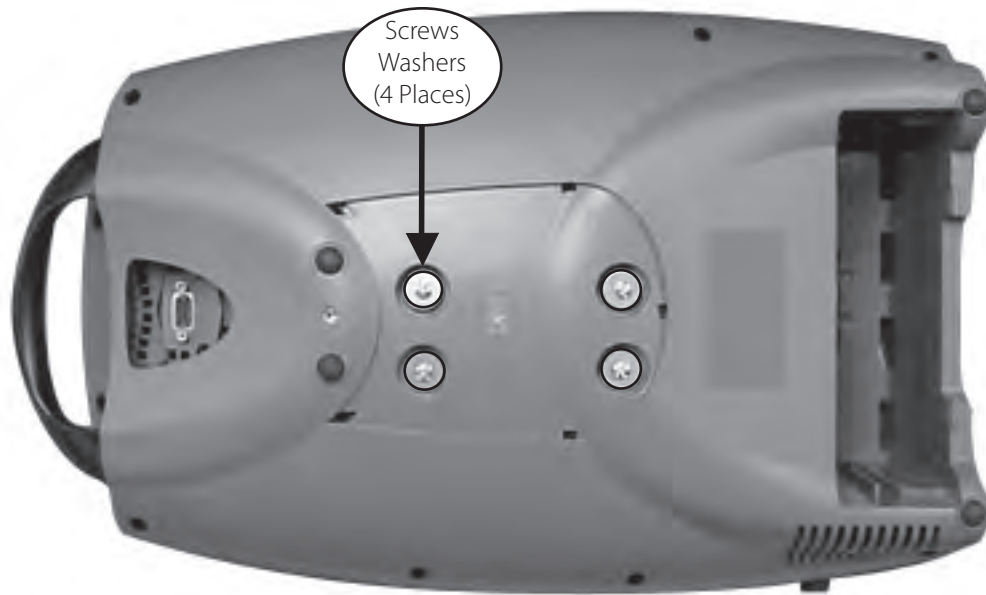

Figure 75: Remove Compressor Box screws.
6. Turn the unit over onto a padded ESD safe surface and remove the 4 screws (M4x16 Pan Head Machine Screw , PN 6961-420-SEQ) and washers (M4 Flat Fender Washer, PN 3568-SEQ) shown in Figure 75.
9. Position the Compressor Box into the Bottom Case with the compressor box screw holes aligned with the 4 brass eyelets. Screw in the 4 screws and 4 washers as shown in Figure 75. Apply small amount of Loctite 425 on the threaded tips of the screw before installing.